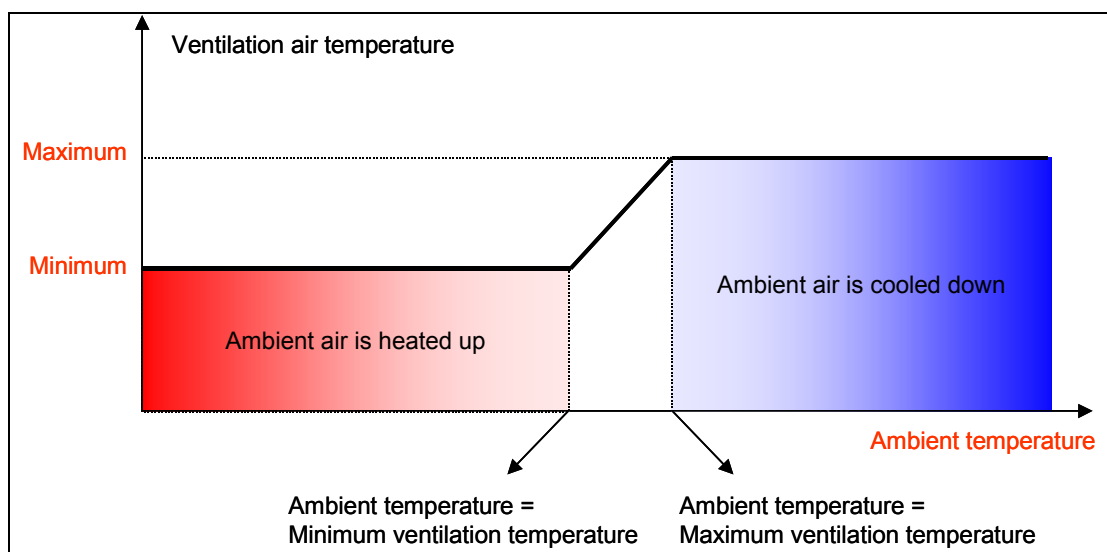

Figure 113: Defining a central ventilation system
2. Instead of a VAM or VKM device, the building may have been equipped with a central ventilation system. In that case, you enter the minimum and maximum temperature values for the supplied ventilation air. The central ventilation system makes sure the temperature values are within the given range by heating or cooling down the ambient air, if its temperature is outside the specified range. Figure 113 shows the principle of such a central ventilation system.